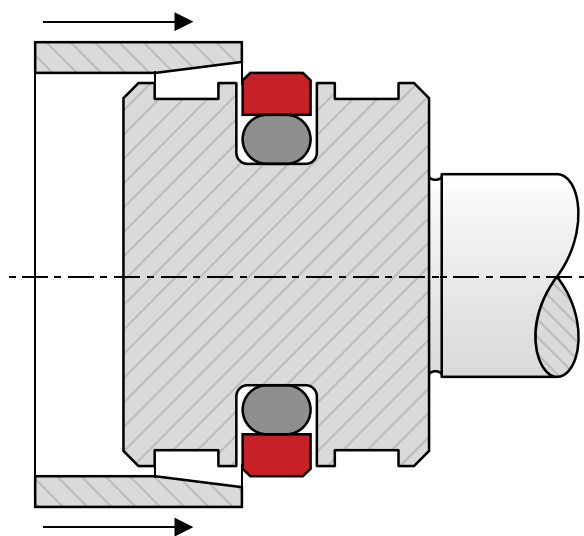

Figure 38: Use of calibration sleeve after installation.
- Confirm that the cylinder tube includes a lead-in chamfer; if this is not possible, use a calibration sleeve as shown in figure 38.
- Finally, calibrate the seal ring by using a separate calibration sleeve or the cylinder tube of this has lead-in chamfers equivalent to twice the values shown in table 17. Calibration will ensure the seal ring is properly seated (see figure 38).